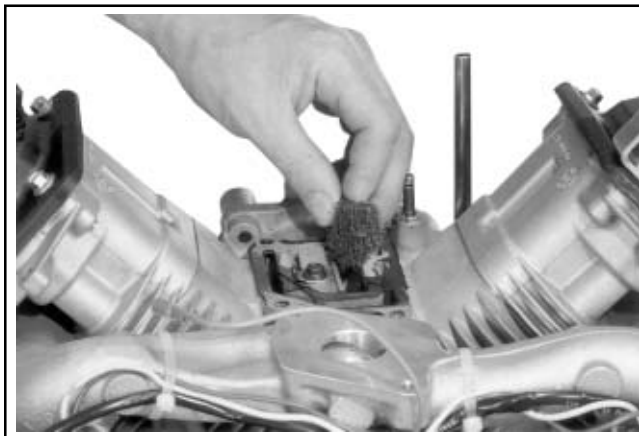

Figure 9-38. Removing Breather Filter.
6. Remove the breather filter from chamber. See Figure 9-38.